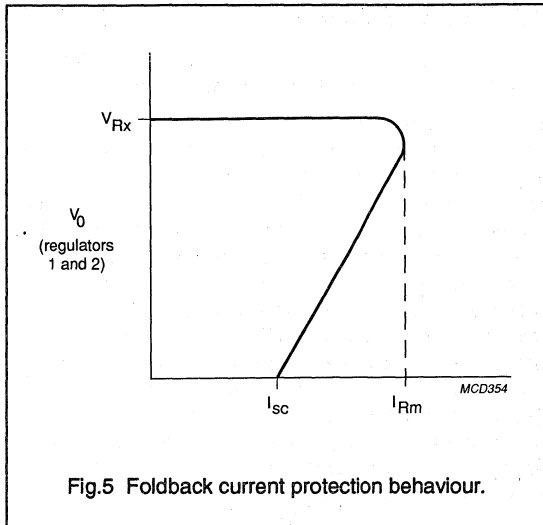

Fig.5 Foldback current protection behaviour.
4. At current limit, I_{Rm} is held constant (behaviour according to the broken line in Fig.5)
5. The foldback current protection limits the dissipated power at short-circuit (see Fig.5)